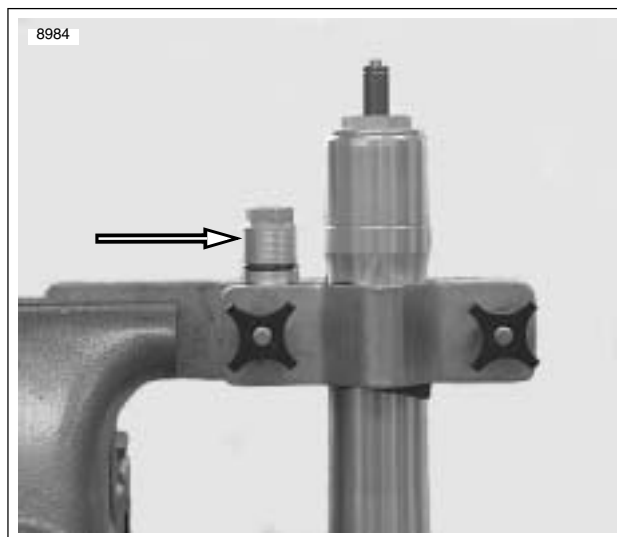

Figure 2-65. Removing Preload Adjuster
4. See Figure 2-65. Remove preload adjuster by turning counterclockwise.